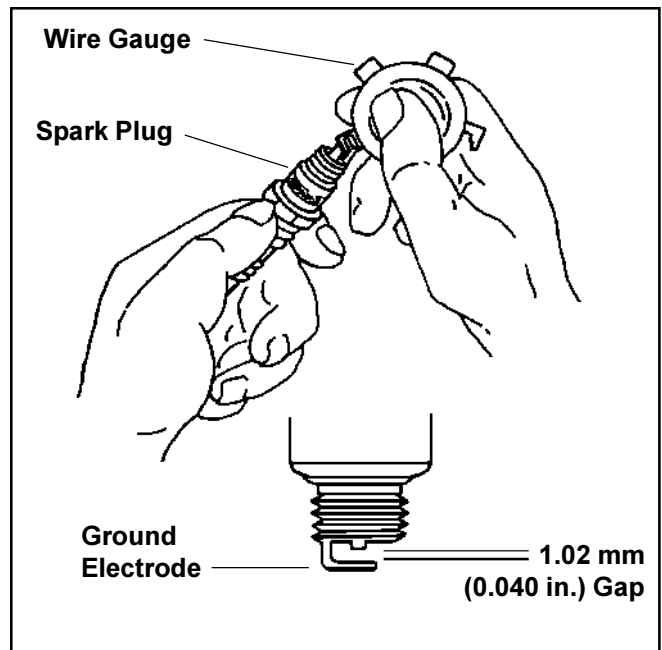

Figure 10. Servicing Spark Plug.
3. Check the gap using a wire feeler gauge. Adjust the gap to **1.02 mm (0.040 in.)** by carefully bending the ground electrode. See Figure 10.